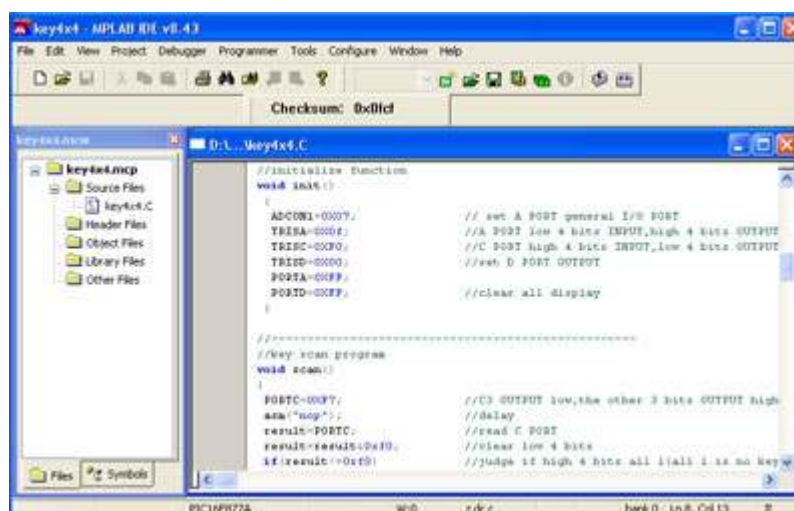

Figure 5-1 MPLAB interface after editing source code and establishing the project
- 2) In accordance with the method introduced in 2.2.1, establish a new engineering project, and complete the settings as below: select PIC16F877A in the second step as the target chip; select "HI-TECH PICC Tool suite" as the compiling tool in the third step; select "KEY4x4" as the new project name (the suffix can be omitted), and the directory for saving the project is the same as that of the source. After editing the source and establishing the project, MPLAB interface will be shown as Figure 5-1.